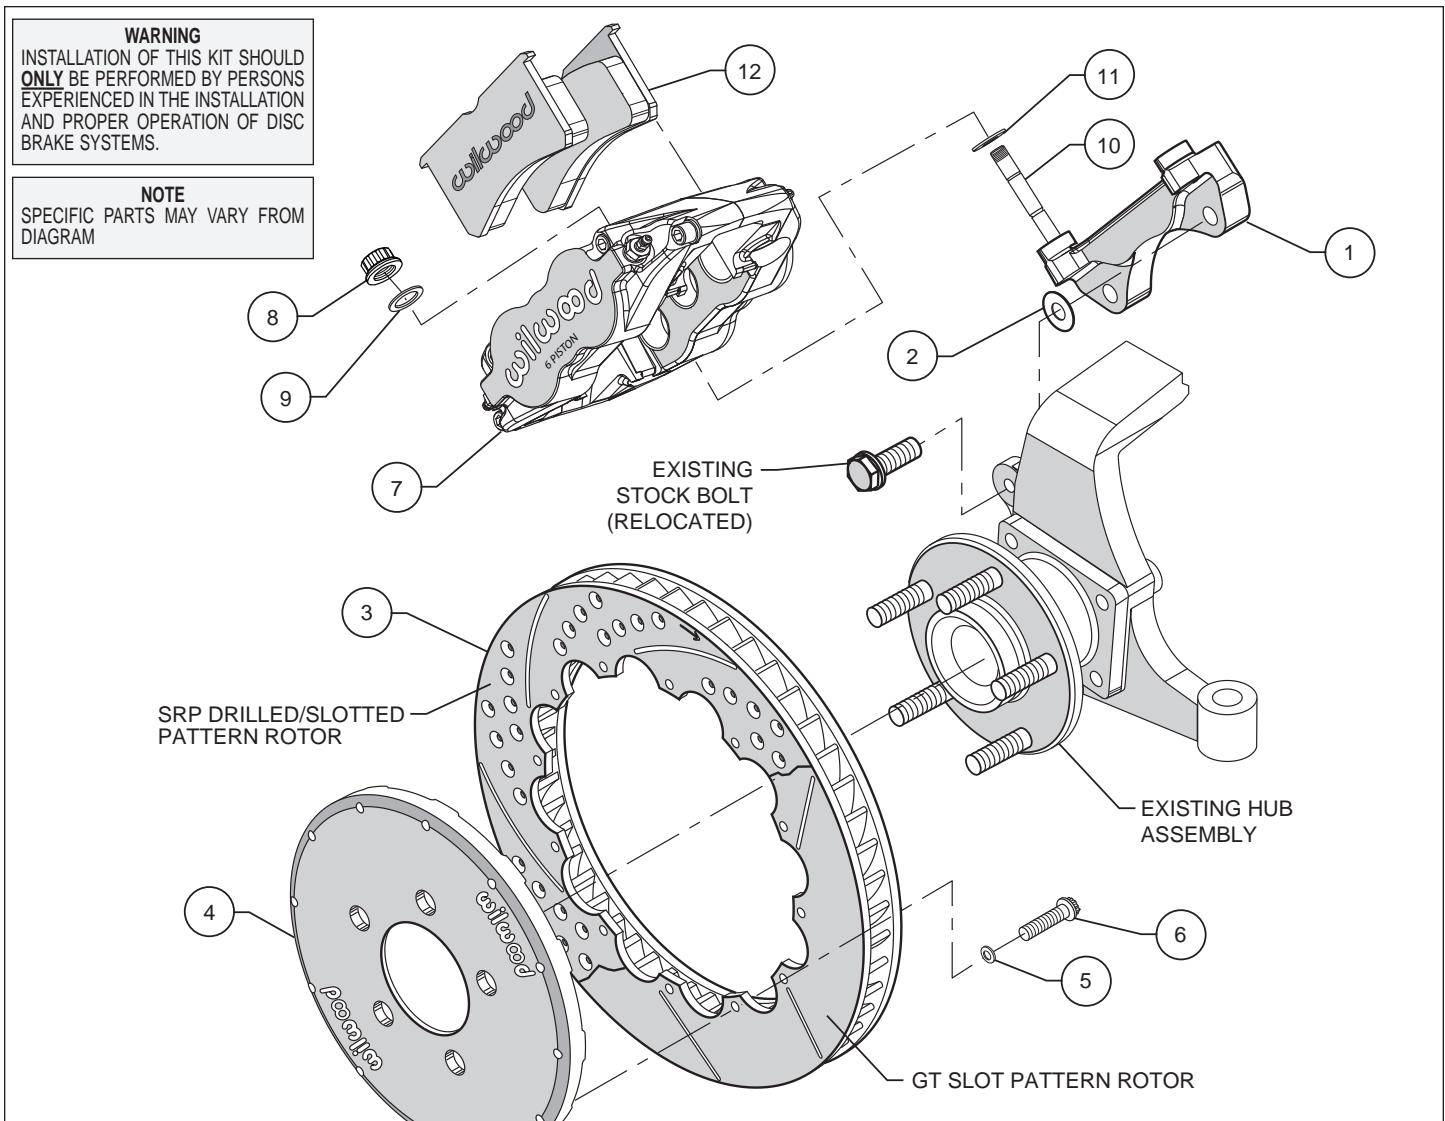
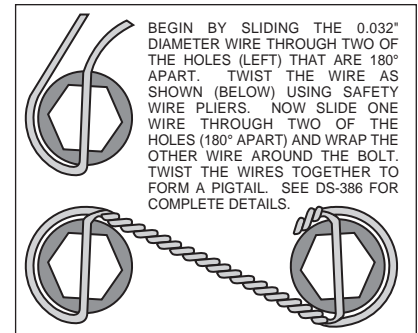

Figure 1. Typical Installation Configuration
Figure 3. Safety Wire Diagram
- The caliper mount bracket assembly (1) should be installed first with clean, dry threads on the mounting bolts. Install the bracket using the original caliper mount bolts. The bolts will now pass through the spindle from the opposite direction that they were removed (see figure 1). The bracket must tighten squarely against the inboard side of the caliper mount bosses on the spindle body. Inspect for interference from casting irregularities, machining ridges, burrs, etc. Use one thin shim (2) between the bracket and spindle during initial trial fitting. Later, after the caliper, pad, and rotor alignment has been checked, and any necessary shims have been put in place, the mount bolts should be coated with red *Loctite*[®] 271 and torqued to 65 ft-lbs.
- Assemble the rotor (3) to the hat (4) with the bolts (6) and washers (5) provided in the configuration pictured in figure 1. Using an alternating sequence, apply red *Loctite*[®] 271 to the threads and torque bolts to 155 **in-lb**. For an added measure of security, the bolts may be safety wired using standard 0.032 inch diameter stainless steel safety wire as shown in Figure 3. Please refer to Wilwood's data sheet DS-386 (available at www.wilwood.com/Pdf/DataSheets/ds386.pdf) for complete safety wire installation instructions.
- NOTE:** This kit contains distinct right and left hand calipers that must be mounted in a specific direction, as described below. Lubricate the caliper mounting studs (10) with lightweight oil. Initially place one .035" thick shim (11) and each stud as shown in Figure 1. Mount the caliper (7) onto the bracket (1) using lock nuts (8) and washers (9), Figure 1. Ensure that the caliper is mounted so that the largest pistons are at the rotor exit end of the caliper, in relation to the direction of rotor rotation. Temporarily tighten the lock nuts and view the rotor through the top opening of the caliper. The rotor should be centered in the caliper. If not, adjust by adding or subtracting shims (2) between the bracket and the upright. Always use the same amount of shims on each of the two mounting bolts. Once the caliper alignment is correct, remove the bracket mounting bolts one at a time, apply red *Loctite*[®] 271 to the threads, and torque to manufacturer's specifications.
- Remove the caliper center bridge pad retainer bolt, nut, and tube from the caliper. Slide the brake pads (12) into place. They should install easily without interference. Check that the outside radius of the brake pad is aligned with the outside diameter radius of the rotor face. Add or subtract shims (11) between the caliper and mount bracket to gain the proper alignment. Reinstall the center bridge pad retainer tube, bolt, and lock nut. The locknut should be snug without play in the bolt or tube. Be cautious not to over tighten.
- Once all clearances have been checked, remove the wheel, caliper, hat, and rotor from the spindle and hub. Secure the caliper mounting bracket (1) to the spindle using red *Loctite*[®] 271. Torque the bolts to 65 ft-lbs. Reinstall the hat and rotor assembly and again use several lug nuts to hold it in place. Lubricate caliper mounting studs and nuts with lightweight oil, reinstall the caliper, torque the caliper nuts (8) to 30 ft-lbs.
- Install braided flexline kit part number 220-6746 (not included). The 10mm x 1 to -3 (P/N 220-6890) male fitting installs to the stock bulkhead. Then install the straight 1/8-27 to -3 NPT (P/N 220-6956) fitting into the caliper (7). Finally, install the flex line (P/N 220-6411) to the two previously installed fitting. **Carefully route lines to prevent contact with moving suspension, brake or wheel components.** Wilwood hose kits are designed for use in many different vehicle applications and it is the installer's responsibility to properly route and ensure adequate clearance and retention for brake hose components.